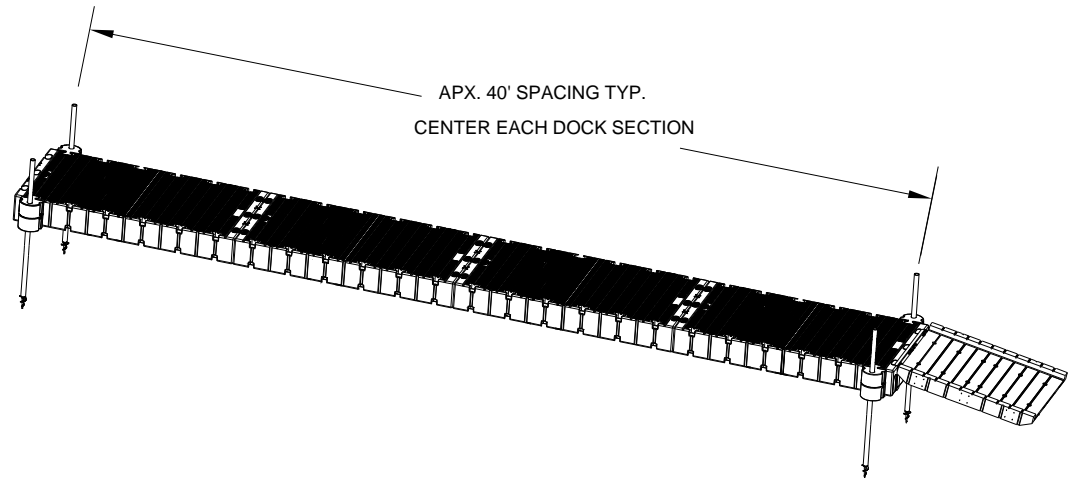

Figure 5
- This method should be used for non-suspended dock systems with water depths less than 12ft and weight loading max of 62.5 lb/sq ft (see figure 5)